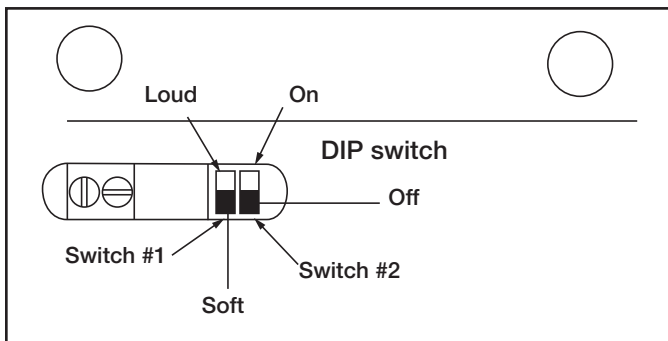

Figure 5. Selected desired alarm options.
If DIP switch #2 is in the ON position (Figure 5) the audible alarm will activate. If no ESD work surface is to be monitored, the Monitor/Table Mat Cord 2380D and the ground wire of the Workstation Monitor must be connected to an electrical ground (See page 4, column 1). This is done to ensure that the Workstation Monitor is providing a ground connection for the operators. Again, if the loop resistance exceeds 3.7 Megohms the work surface high red lamp (M) will illuminate and the alarm will activate if selected. 2380 Mat Cord (without resistor) can also be used with the Workstation Monitor. It can be used when the surface resistance threshold of 3.7 Megohms is reached using the 2380D.
- Using a small screwdriver move the DIP switch #2 on the Workstation Monitor to the ON position to activate the work surface audible alarm (Figure 5).
- a) Using a screwdriver move DIP switch #2 on the Workstation Monitor to the OFF position to deactivate the work surface audible alarm (Figure 5).
- Access the dual inline package (DIP) switches SW1 and SW2 through a slot located at the bottom of the chassis. Adjust SW1 to the LOUD position and SW2 to the ON position with a small screwdriver (Figure 5).
- Plug in the AC adapter. Note that the red high work surface lamp (M) is illuminated with an audible alarm (slow chirping beep).
- 3.1 Megohms – Red work surface lamp (M) OFF.
- 4.3 Megohms – Red work surface lamp (M) ON.
- Connect the ring terminal end of the Workstation Monitor ground wire to the metal snap of the Monitor/Table Mat Cord 2380D. The red work surface lamp (M) should now be OFF.